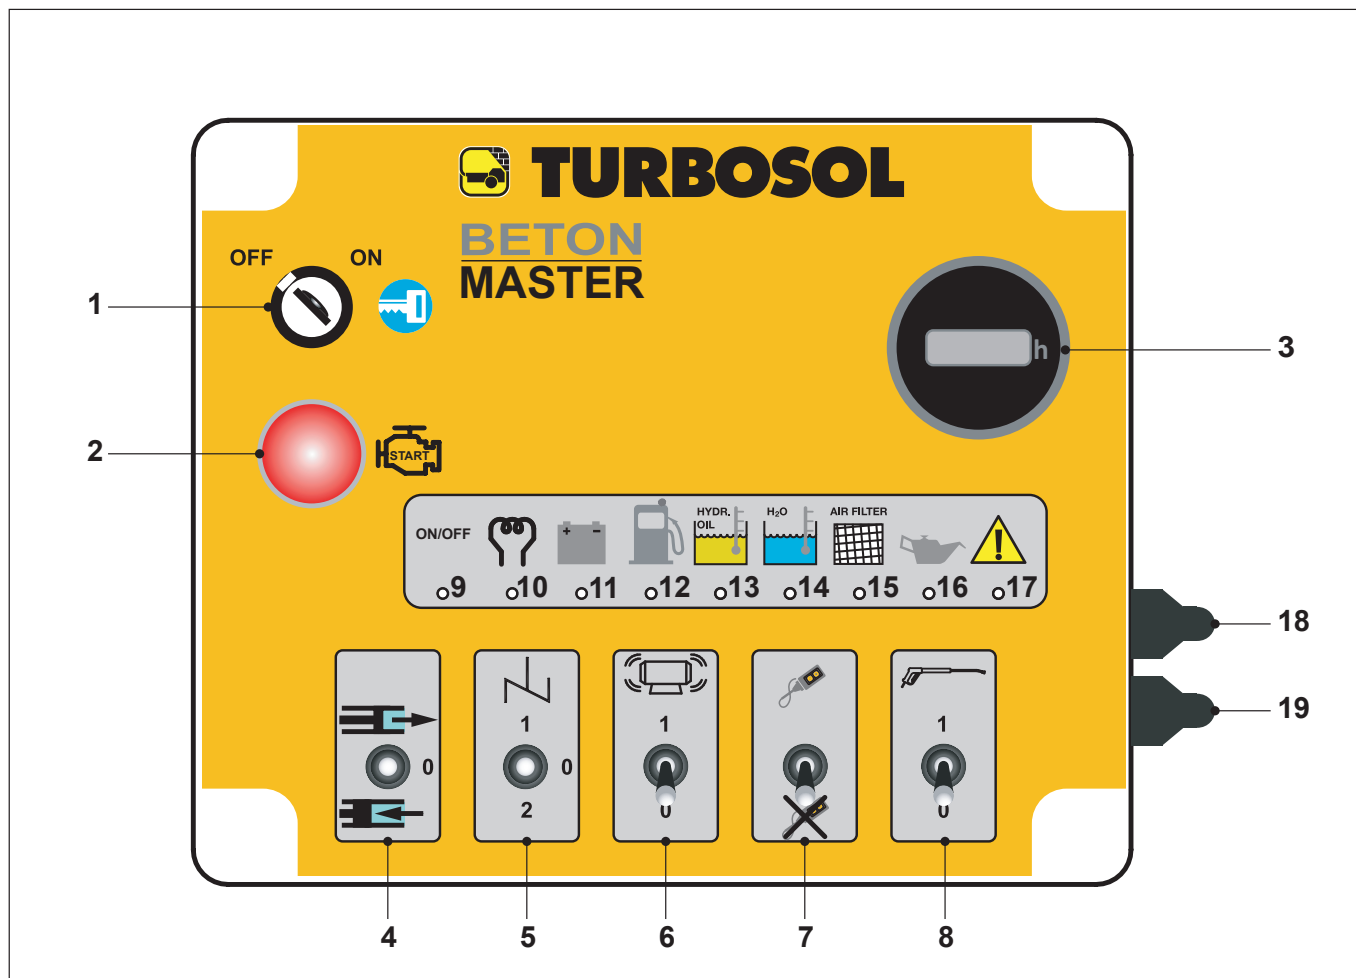

FIG. 35
- Battery re-charge alarm (FIG.35-REF.11)
- Diesel oil level alarm (FIG.35-REF.12)
- Hydraulic oil temperature alarm (FIG.35-REF.13)
- Engine cooling liquid temperature alarm (FIG.35-REF.14)
- Air filter alarm (FIG.35-REF.15)
- Motor oil pressure alarm (FIG.35-REF.16)
- Safety devices activation alarm (FIG.35-REF.17)
The pre-heating phase starts automatically, once the key has been turned. The LED (FIG.35-REF.10) on the console indicating spark plugs pre-heating switches on. Wait for this LED to switch off. Once the pre-heating phase has been completed:
- Press the activation button (FIG.35-REF.2); the motor starts running.